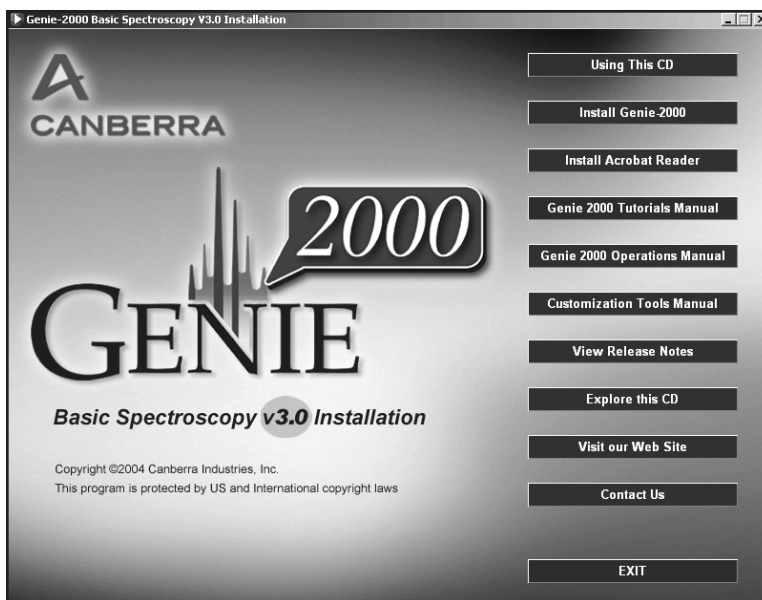

Figure 178 The Genie 2000 Installation Screen
4. The setup screen (Figure 178) offers several Genie 2000 options. In addition to installing the software, you can read the Release Notes, install Acrobat® Reader® and review the *Genie 2000 Tutorials Manual*, the *Genie 2000 Operations Manual*, and the *Genie 2000 Customization Tools Manual*.